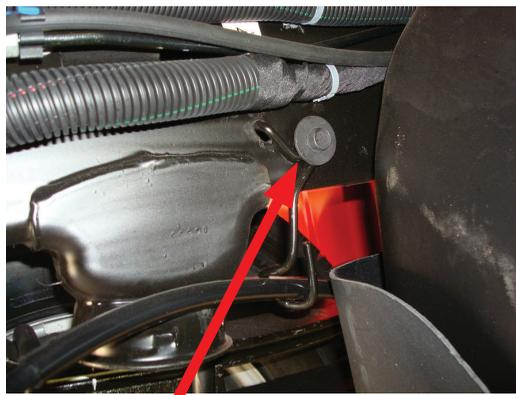

fig. 4
3. Remove the bolt that holds the emergency bracket to the inside of the driver's side frame rail (Figs. 4 & 5).